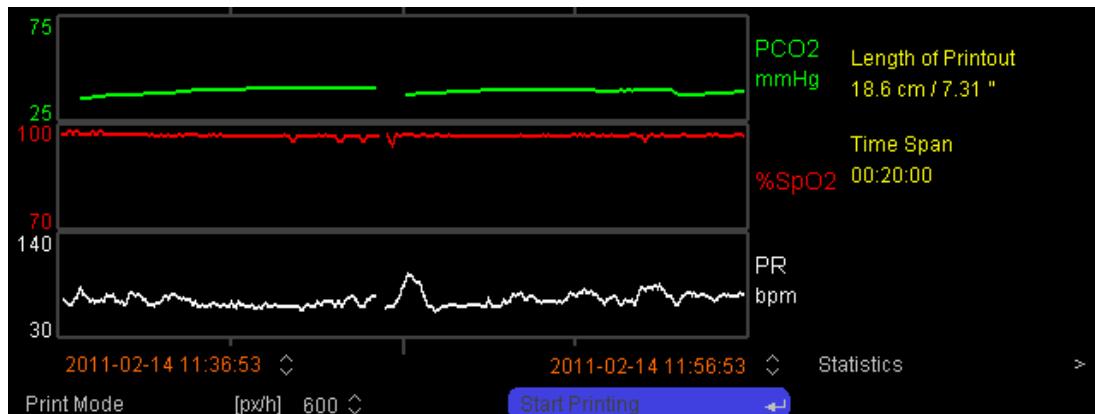
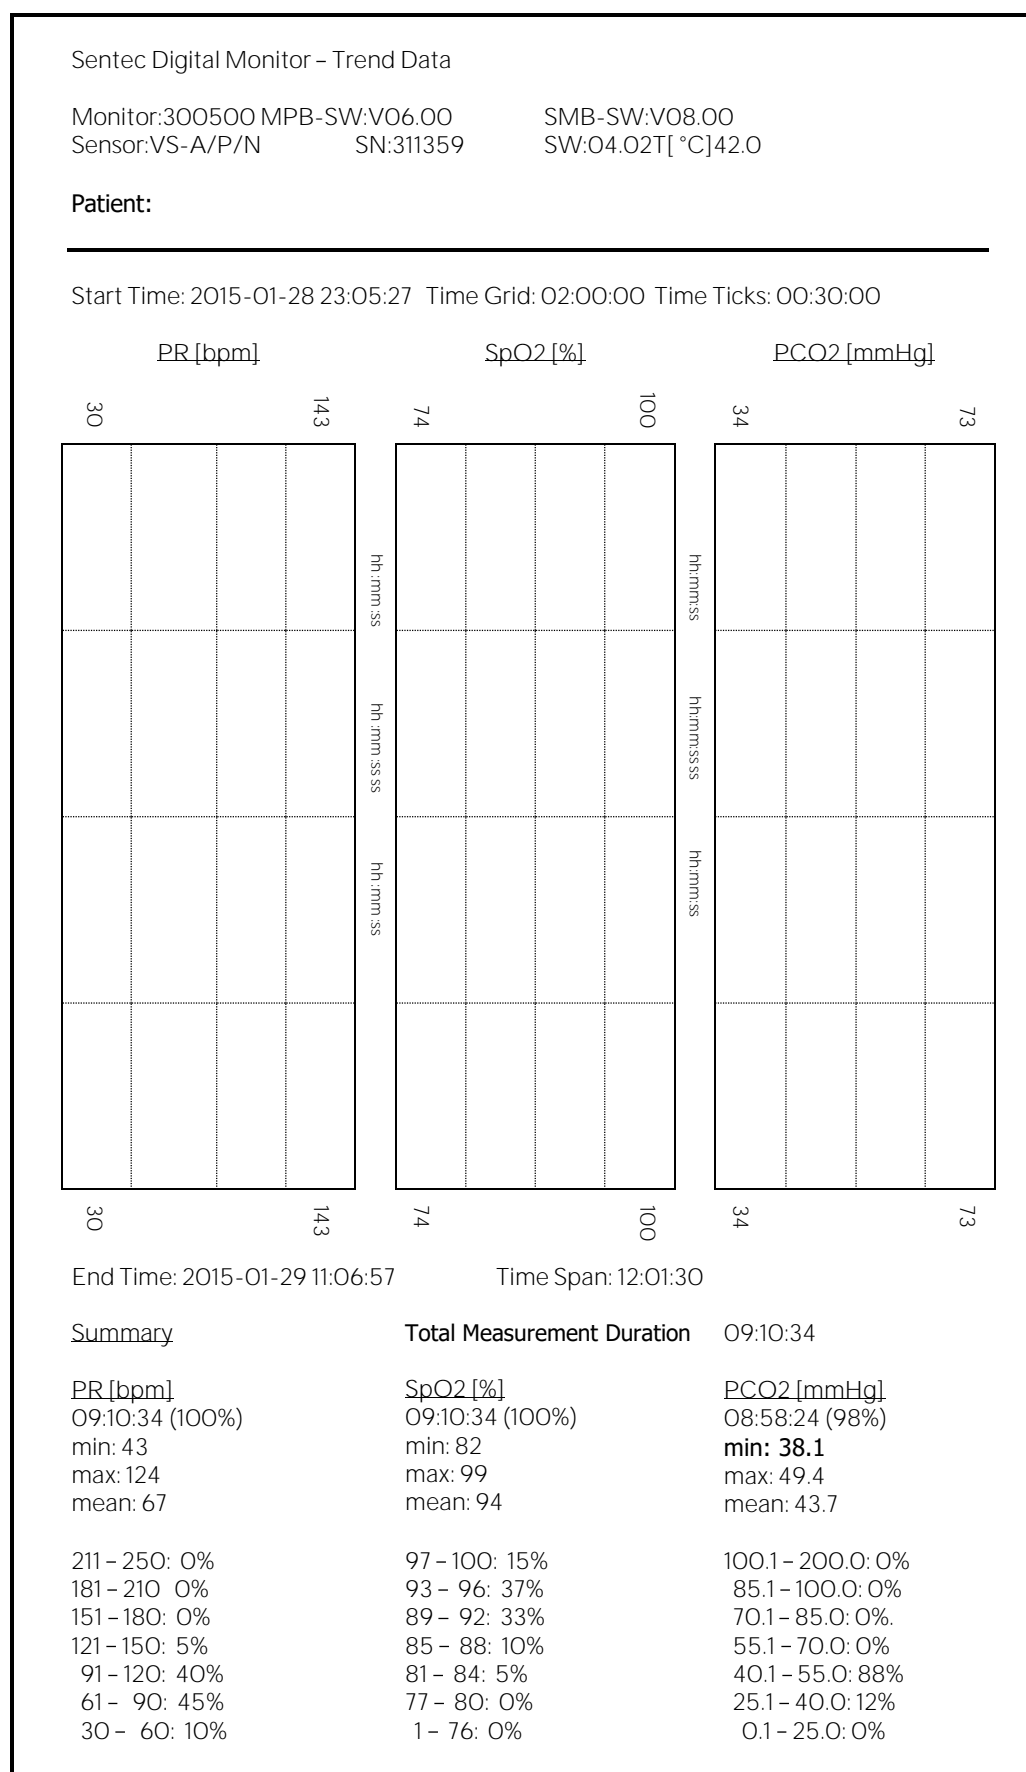

Figure 11 Review Trend Data Screen
Figure 13 Example of Trend Data Print-Out
The SDM automatically stores PCO2, PO2, SpO2, PR, RHP and PI data as well as alarm limit violations for these parameters in its internal memory. Furthermore it stores status information (4.3.5), important settings (e.g. alarm related settings, sensor temperature related settings), as well as sensor and monitor specific information (serial numbers, software versions). Any time data are available in the internal memory of the SDM it is possible to select the desired measurement range in the sub-menu 'Review/Print Trend Data' (Table 56, 4.12.4) for subsequent on-screen viewing and/or printing of graphical trends and statistical summary (Figure 11, Figure 12, Figure 13). By using V-STATS™ it is furthermore possible to download trend data stored in the internal memory via the SDM's serial or LAN interface (5.2, 5.3) for subsequent data display, data analysis, and generation of a printable report (refer to the V-STATS™ Instruction Manual).
Note: The graphical trends and statistical summary corresponding to the data comprised within the selected time range can either be printed directly (Figure 13) or first be displayed on the SDM (Figure 11, Figure 12).
-  **Note:** If returning to the sub-menu 'Review/Print Trend Data' (Table 56) from the 'Review Trend Data Screen' (Figure 11) by using the Menu/Previous Level Button (4.1.4) the settings of the four parameters that allow to select the time range to be reviewed/printed are maintained. As a result the time range to be reviewed/printed can easily be adjusted (e.g. to zoom in/out) without having to enter the selections again.
Opens the 'Review Trend Data Screen' (Figure 11), which graphically displays trend data according to the user's selections/settings if a regular measurement is selected or the 'V-Check Results Screen' (Figure 15) if a V-Check Measurement is selected.
Activates the print-out of the graphical trends/statistical summary of the data comprised within the selected time range by using the current ranges (y-axis) (Figure 13). The menu text changes to 'Stop Printing' (displayed in yellow) during printing and changes back to 'Start Printing' once printing has finished.
These three menu parameters allow selecting for each parameter the range (y-axis) that will be used for the Trend Data plots in the 'Review Trend Data Screen' (Figure 11) as well as in the graphic printout (Figure 13). Factory Defaults and possible selections are provided in Table 56.
-  **Note:** Please note the difference between 'Online Trends' and 'Trend Data Plots'. In case of an 'Online Trend' the right side of the graph corresponds to the current time and the graph is automatically updated, where the update interval depends on the Time Range selected for Online Trends (Table 38). The SDM provides 'Online Trends' on various of its Measurement Screens (4.2.3). In case of 'Trend Data Plots' (Figure 11) the right side of the graph corresponds to the end time of the selected time range, whereby the end time can be any date/time in the past. Please note furthermore, that 'Trend Data' plots are not updated. The time range must be adjusted and updated in the menu.
As described in detail below, it is possible to refine the displayed time range (i.e. to scroll and/or zoom) by adjusting the start time and end time, respectively. Furthermore, it is possible to activate a further screen providing a statistical summary (Figure 12) or the print-out of the graphical trends/statistical summary (Figure 13).
The function 'Statistics' in the 'Trend Data Review Screen' (Figure 11) activates the 'Trend Data Statistics Screen':
The function 'Start Printing' in the sub-menu 'Review/Print Trend Data' (4.12.4, Table 56) and in the 'Review Trend Data Screen' (4.12.5.1, Figure 11) activates the print-out of graphical trends followed by a statistical summary for the currently selected time range.
An example of a typical printout is schematically shown in Figure 13.